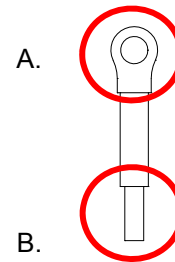

Fig. 7
- The communication cards listed below must connect to ground when wiring. The ground terminal is enclosed with communication card as shown in Fig. 7.